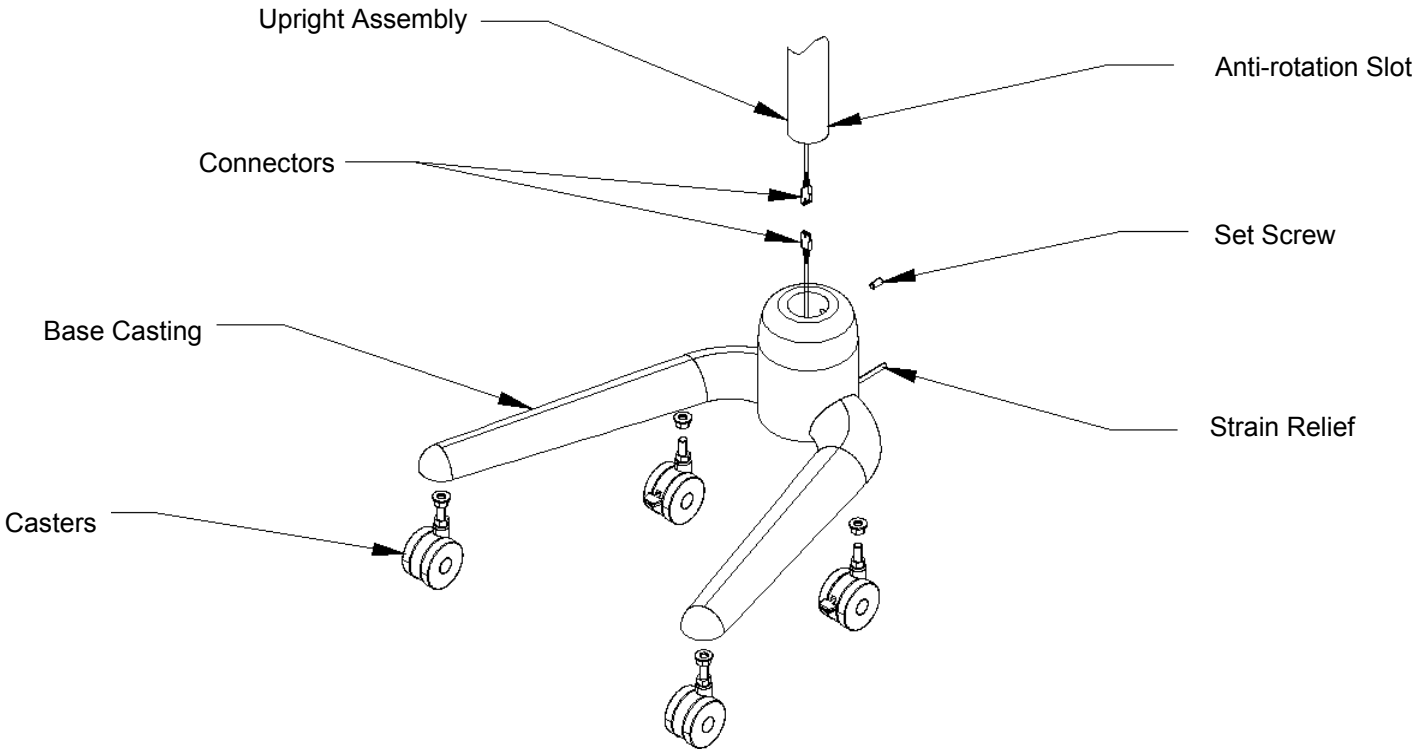

Figure 15: Floor Stand Light Installation
Prior to installation insure that all components shown are present. (See Figure 15 & 16)
- Position the floor base casting so that the set-screw in the base is at the rear of the assembly. (See figure 15)
- Connect the Connectors from the upright assembly to the base casting. See Figure 15